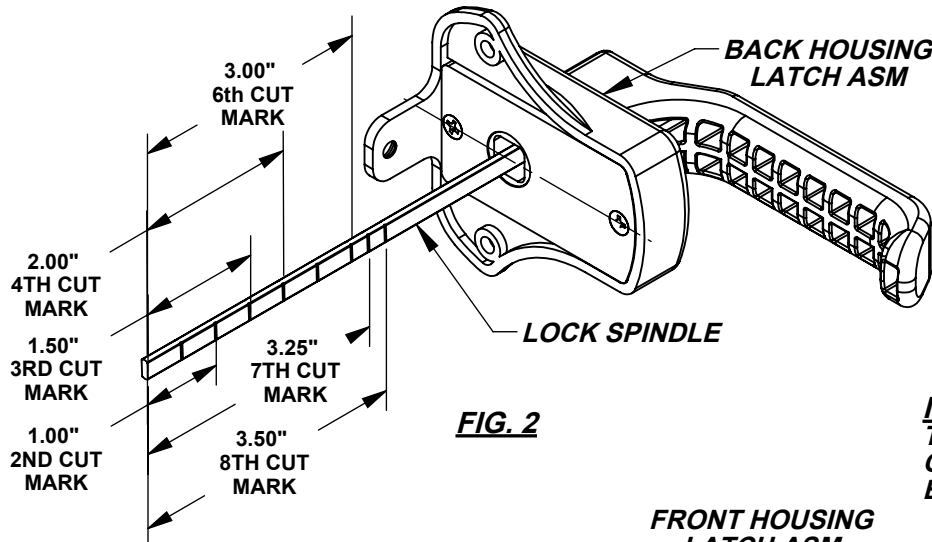

FIG. 2
STEP 2 (Fig. 2 & Gate Size Chart - see below)